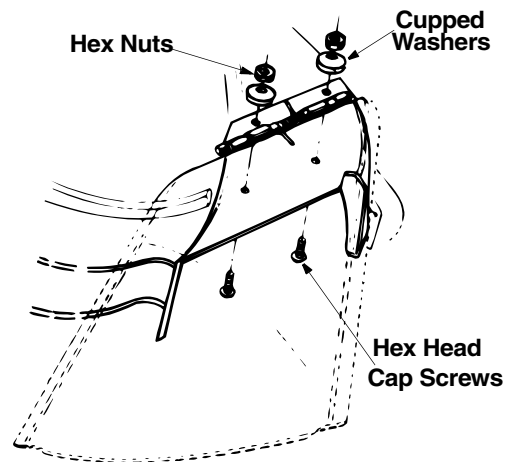

Figure 6
- Place the chute deflector in position as shown in Figure 6 . Secure with hardware earlier removed. Note that the cupped side of washer goes against the chute deflector.